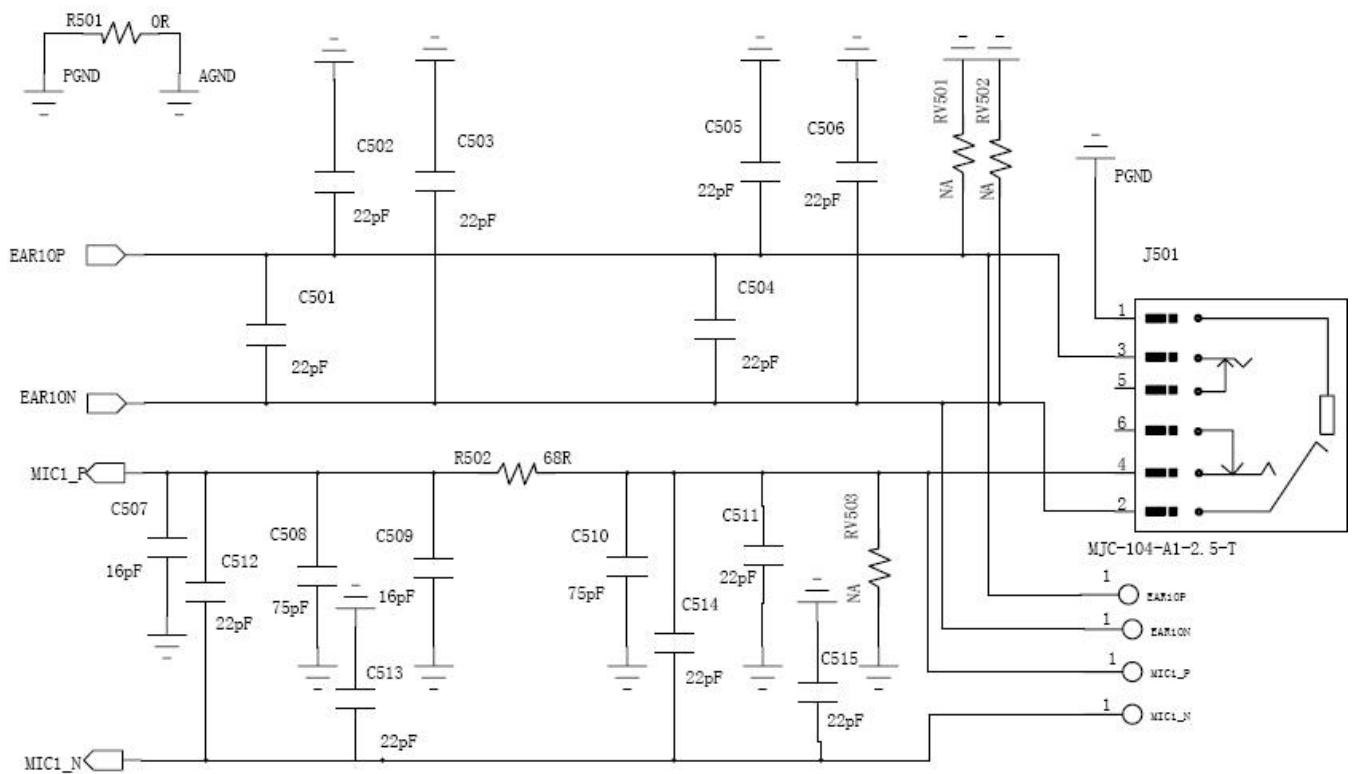

Figure 2-11 The reference circuit of audio interface
The reference circuit of audio interface is shown in figure 2-11.
shown in Figure 2-11. J401 is a 9 needle serial port plugs, we can use it to connect U9507E and PC.
- 2) For avoiding the electro-static, it is recommended to use the ESD element to the signal line of the UART socket. Just like the voltage dependent resistors RV401, RV402, RV403, RV404 and RV405 in figure 2-11. And the ESD element should close to the socket as close as possible.